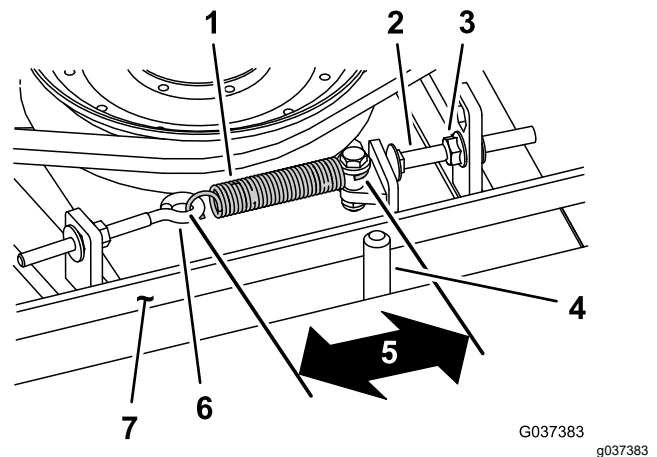

Figure 76
When properly tensioned, the inside measurement of the extension spring (hook to hook) should be approximately 8.3 to 9.5 cm (3-1/4 to 3-3/4 inches). Once the correct spring tension is attained, adjust the stop bolt (carriage bolt) until there is approximately 2 to 5 mm (0.065 to 0.185 inch) clearance between the head of the bolt and the idler arm (Figure 76).
Note: Ensure that the belt is positioned on the spring side of the belt guide (Figure 76).
2. Loosen the eye bolt allowing the removal of the extension spring (Figure 76).
3. Loosen the flange nut securing the stop bolt to the mounting tab and move the idler pulley away from the belt to release the belt tension (Figure 76).
9. Connect the extension spring (Figure 76) to the eye bolt and tension the belt as follows: